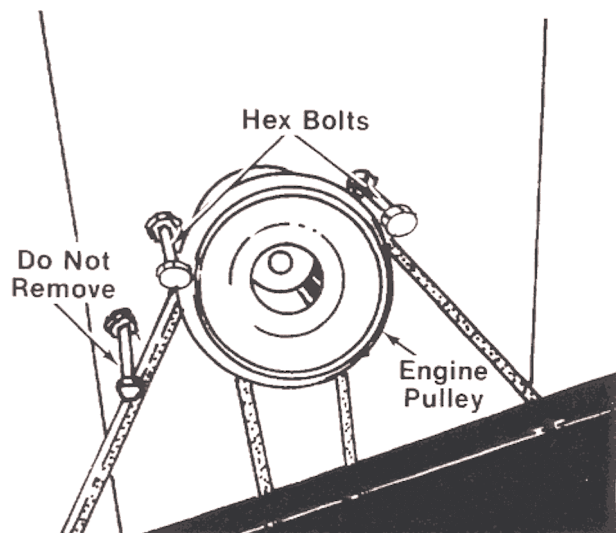

FIGURE 24.
Figures 24 through 28 are shown with the unit tipped up for clarity. It is not necessary to tip the unit to remove the belts.
2. Remove the two hex bolts (belt keepers) from the engine pulley belt guard. See figure 24.